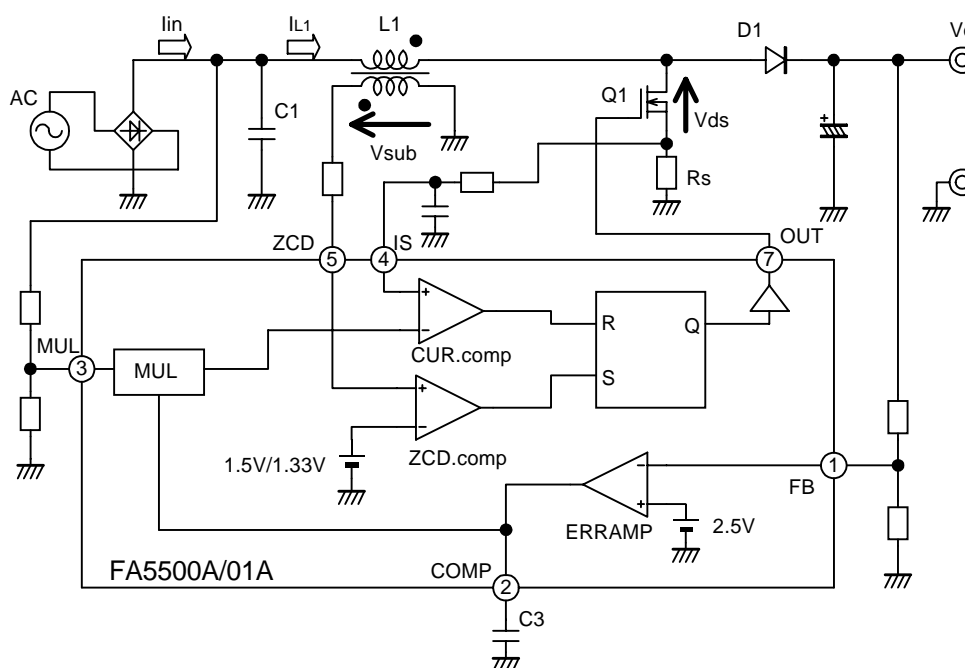

Fig.1 Outline of PFC converter circuit
FA5500A/FA5501A are control ICs for a power factor correction converter using a boost type topology that operates in critical conduction mode. The operations, which are (1) Switching operation and (2) Power factor correction operation, are described here with the circuit shown in Fig. 1.
(1) Switching operation